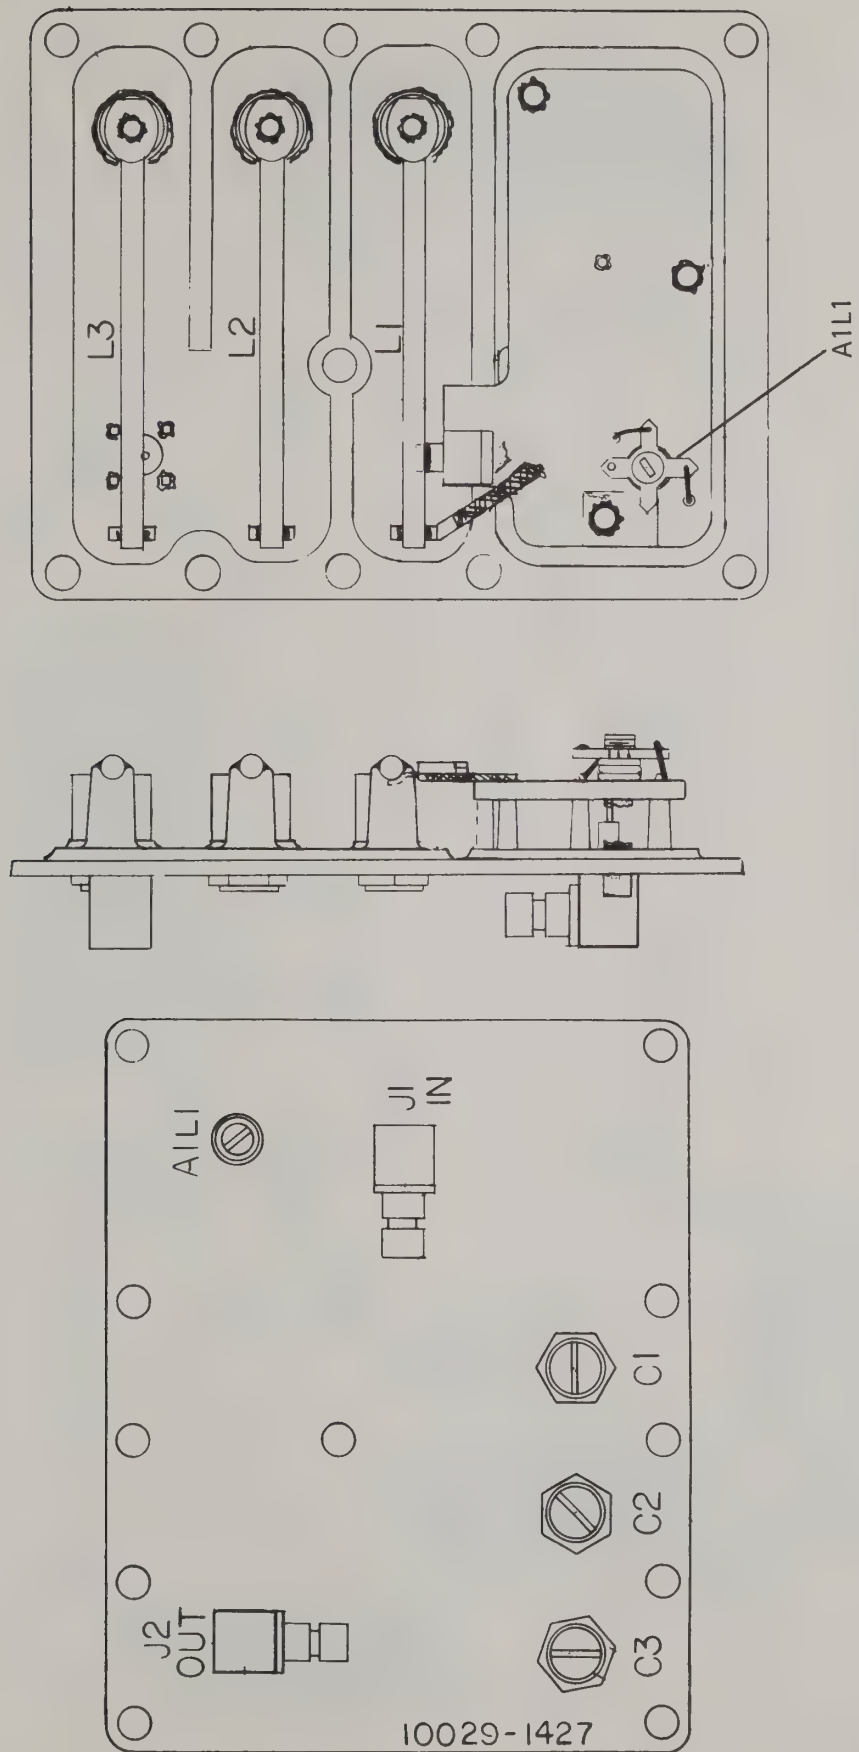
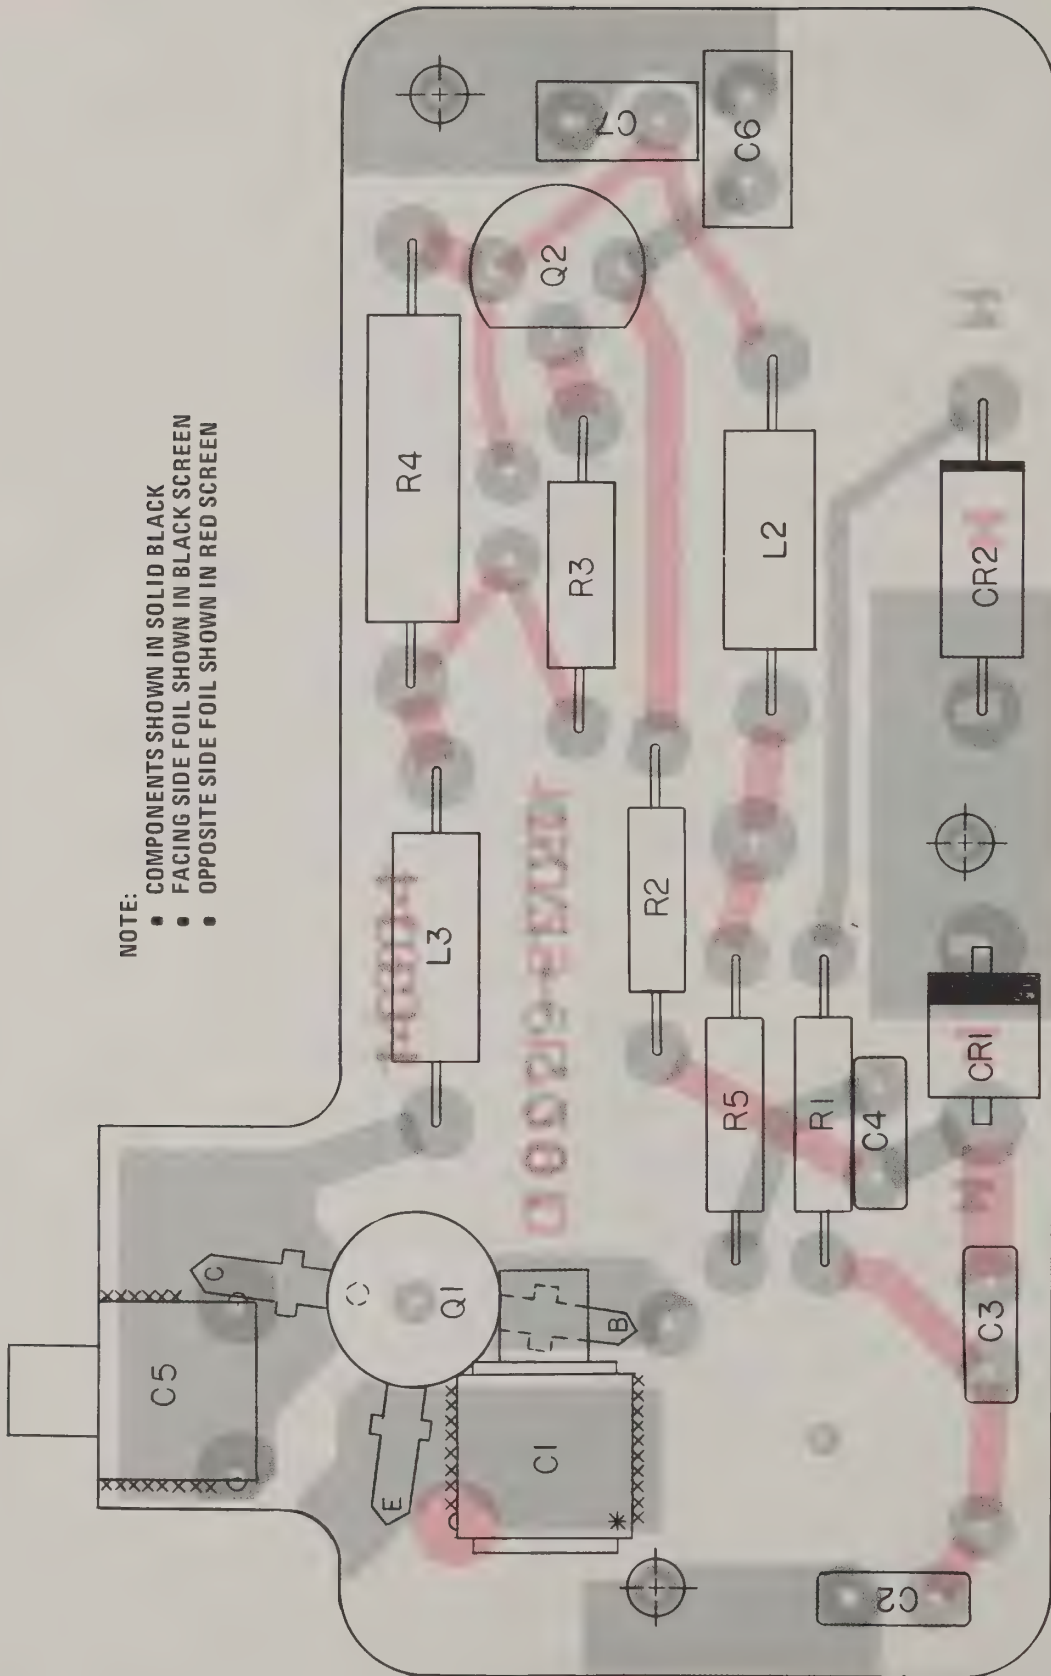

Figure 2. UHF Tx Exciter Cover Assembly, Component Location Diagram
Figure 3. UHF Tx Multiplier Board Assembly A1, Component Location Diagram
6.01 Table 2 lists and identifies all of the electronic parts on the UHF Tx Exciter Cover Assembly. Figure 2 gives component location information for the UHF Tx Exciter cover assembly. Table 3 lists and identifies Multiplier Board Assembly A1 parts. Figure 3 gives component location information for UHF Tx Multiplier Board Assembly A1.